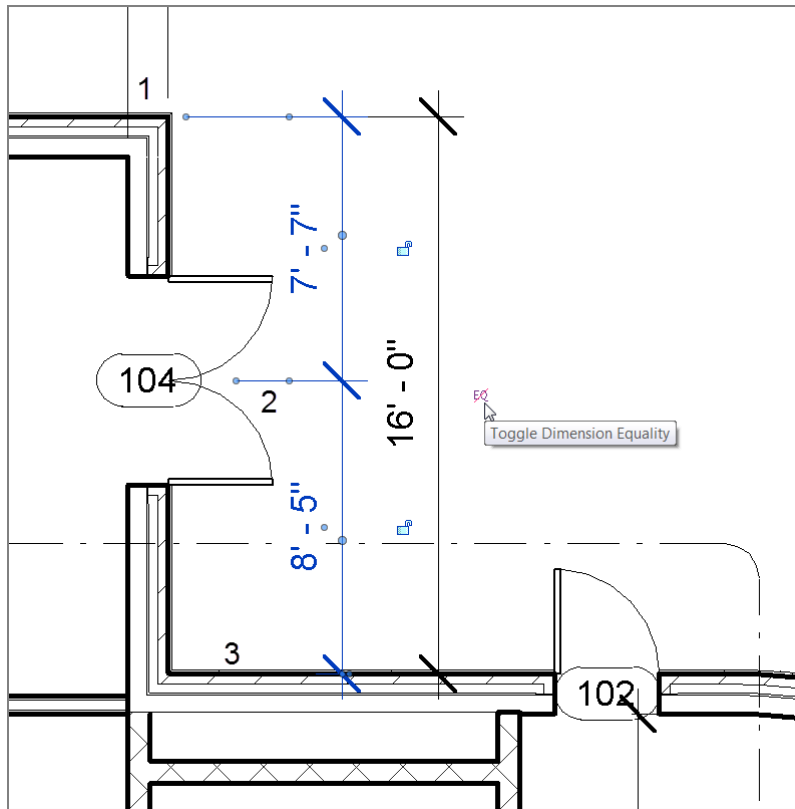

FIGURE 5.7: Adding a dimension string manually
- b. Pick the centerline of the door, as shown in Figure 5.7, but don't press Esc or terminate the command.
- c. Pick the horizontal wall that ties into the radial wall, marked 3 in Figure 5.7.
- d. Pick a point inside (to the left of) the first dimension (see Figure 5.7). This places the dimension string and finalizes the session.
The actual dimension values are blue. You also see a blue EQ icon with a slash through it (see Figure 5.7).